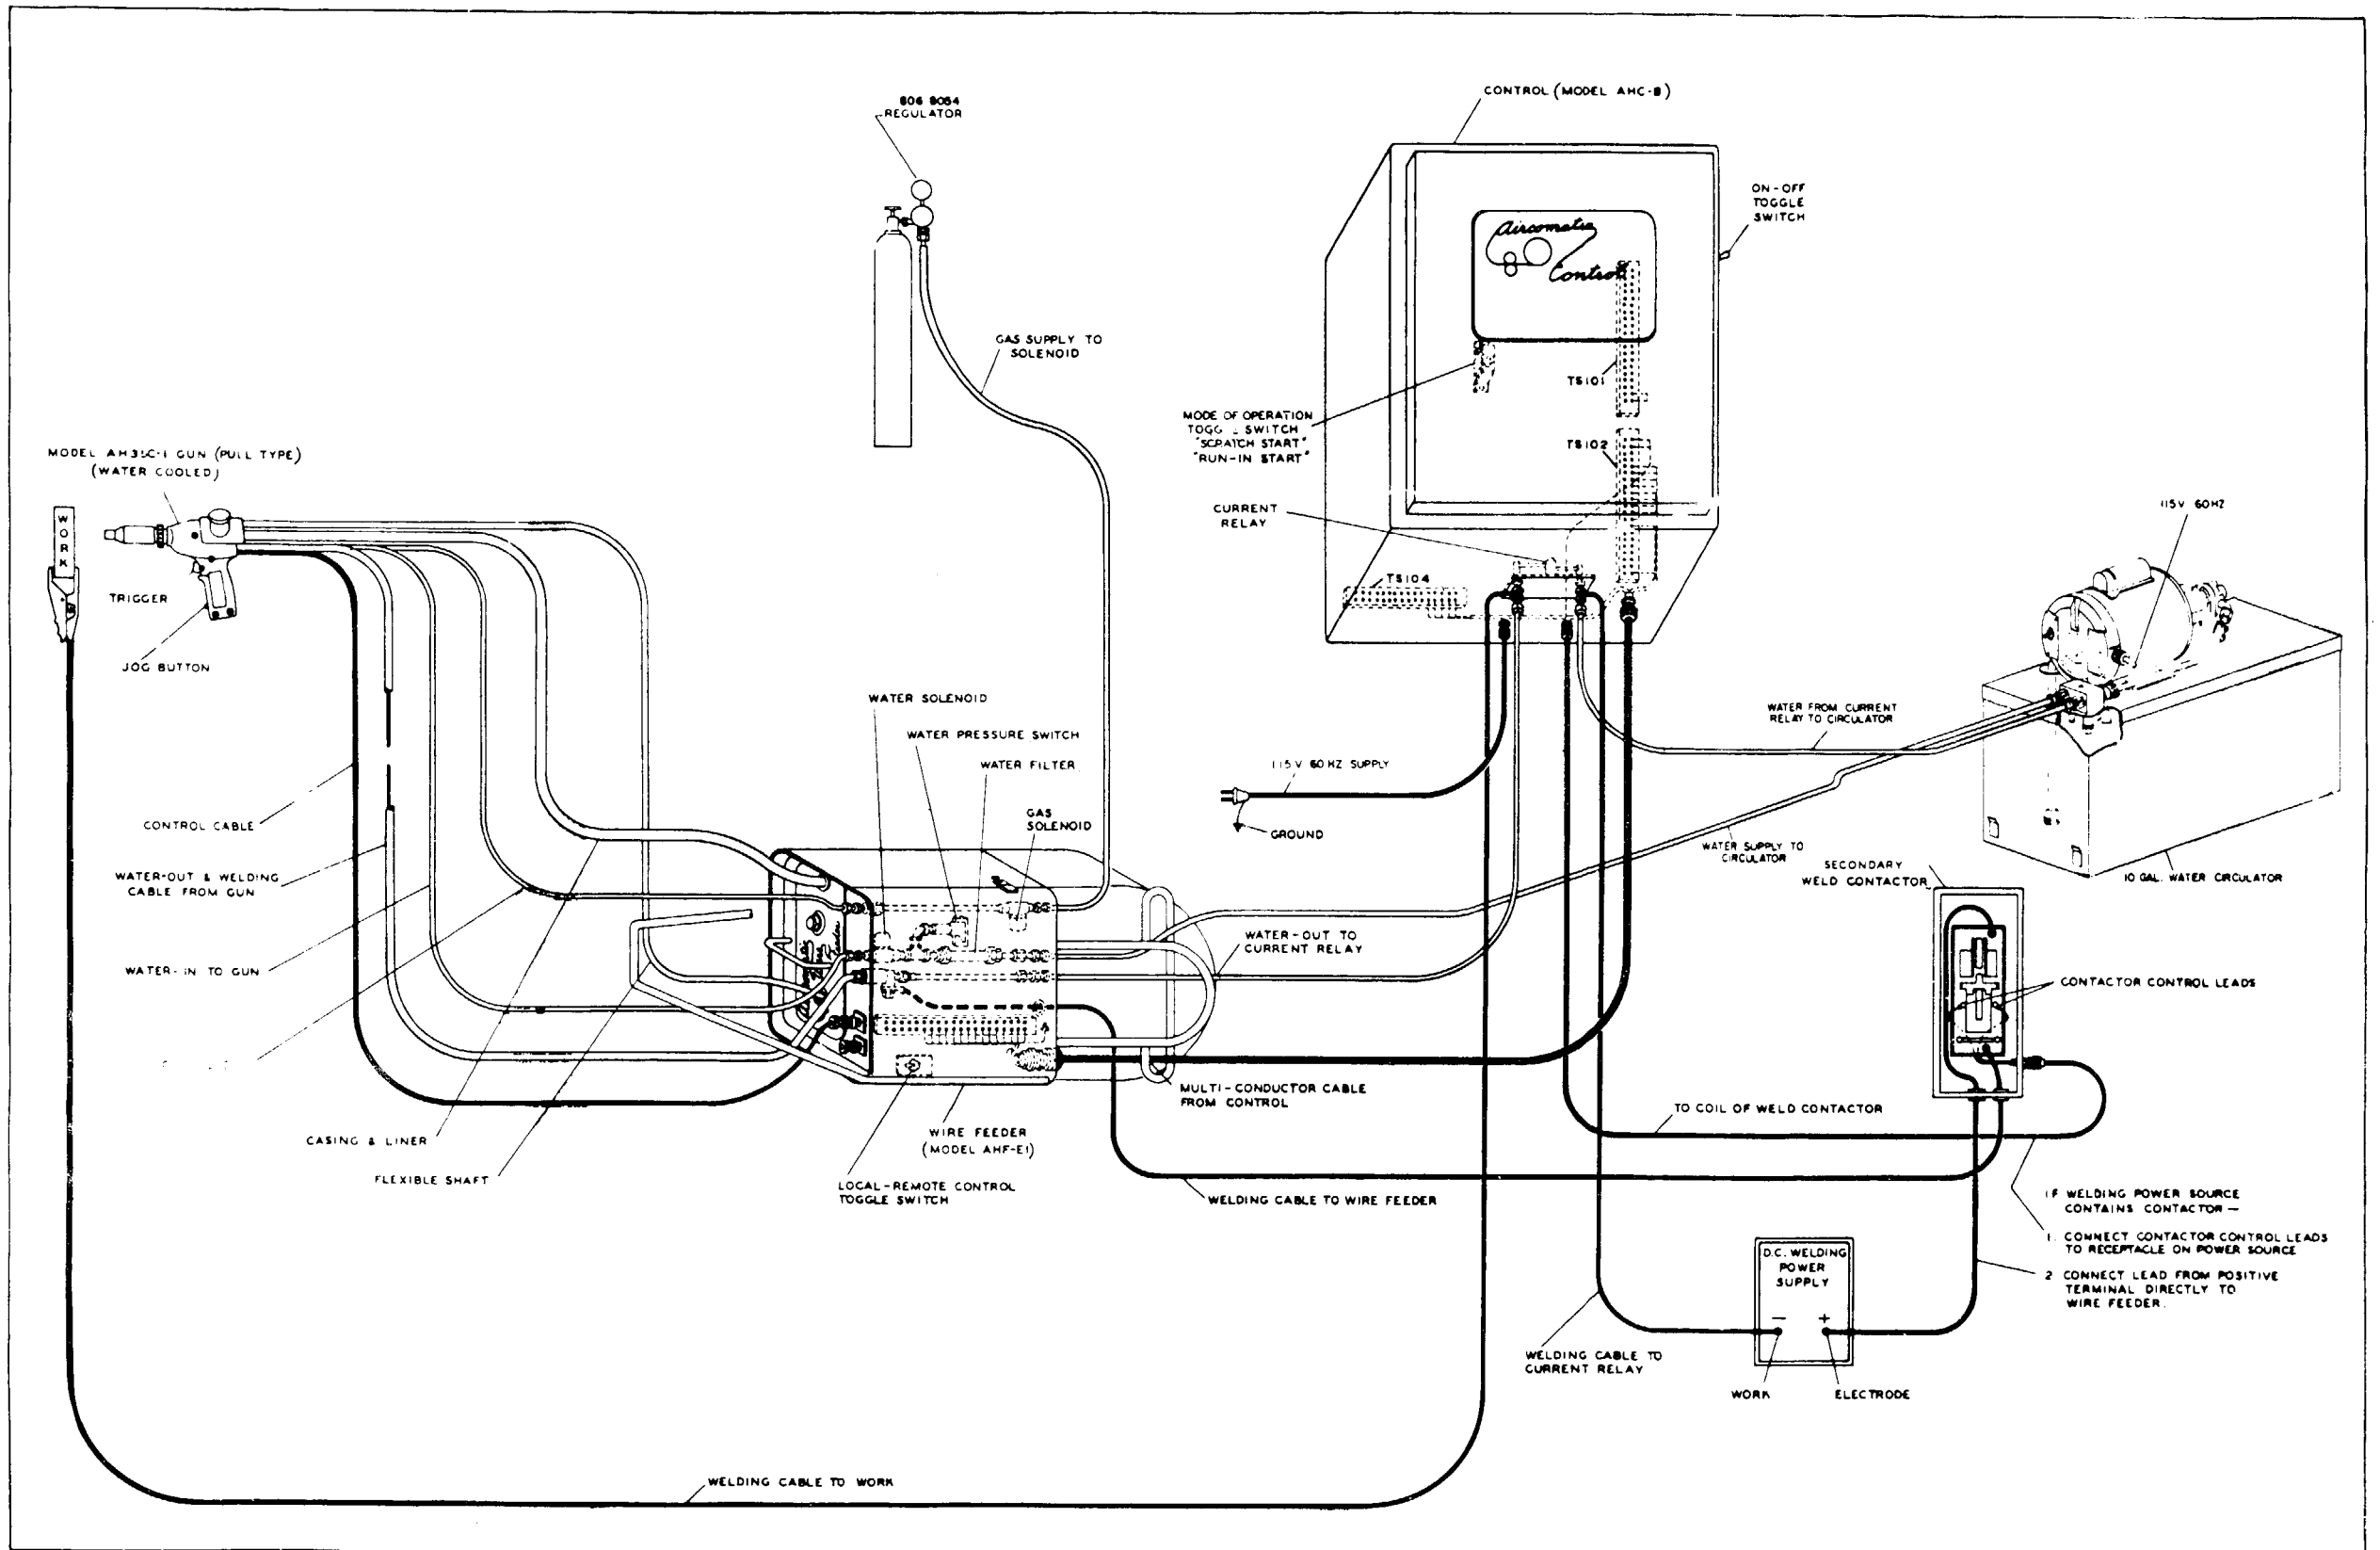

Figure 3. Interconnection schematic.
- (3) Refer to figure 3 for the interconnection schematic.